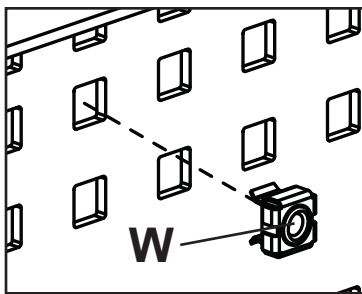

fig 5.1
- 3** Snap installation tab off of wall mount assembly (G).
- 4** Attach and tighten two support brackets (C) to inside of interface plate (A) and wall plate (B) using two sets of 1/4-20 x 1" round phillips head screws (U), 1/4" flat washers (X) and 1/4-20 flanged serrated locknuts (V). Repeat for remaining interface plate then tighten all fasteners.
- 5-1** Align wall mount assembly (G) with interface plates (A) to determine location of cage nuts (W) used to secure wall mount assembly (G) to interface plates. Install cage nuts from rear side of interface plates (A) as shown in figure 5.1.